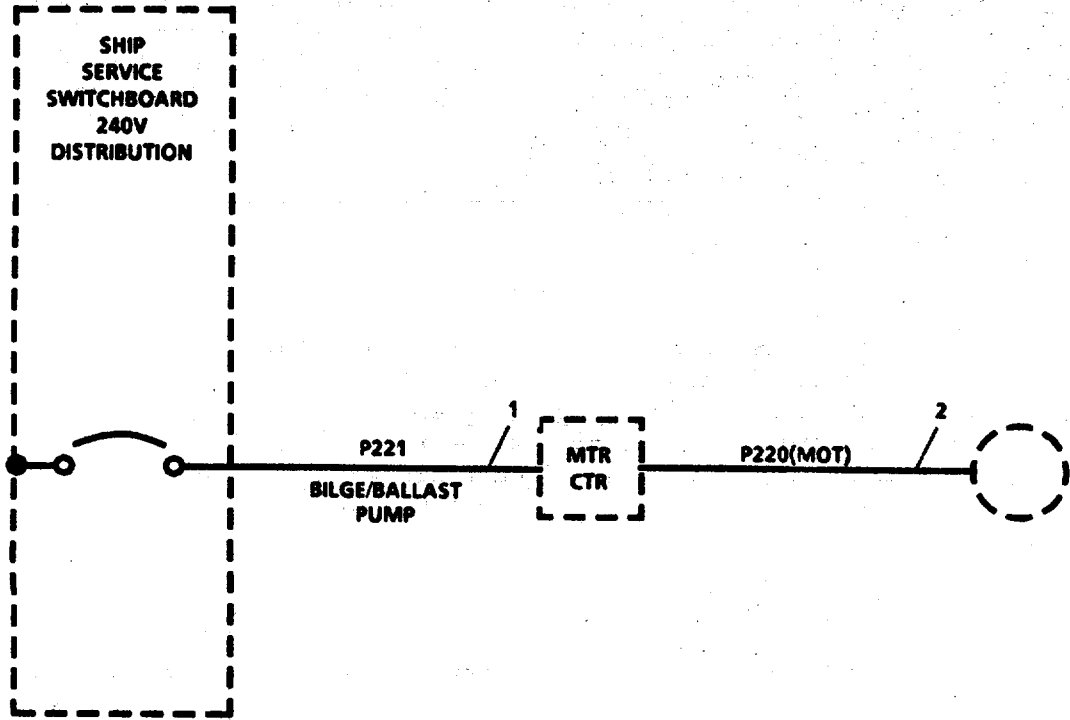

FIGURE 3-145. Boat Davit Power Distribution.
**3-159. Repair Boat Davit Power Distribution. (Figure 3-145).**